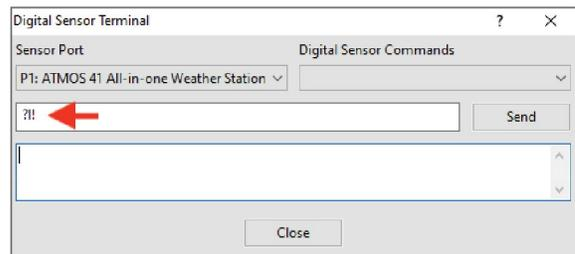

Figure 21. ?! command entered
7. Enter the ?! command in the prompt field (Figure 21).